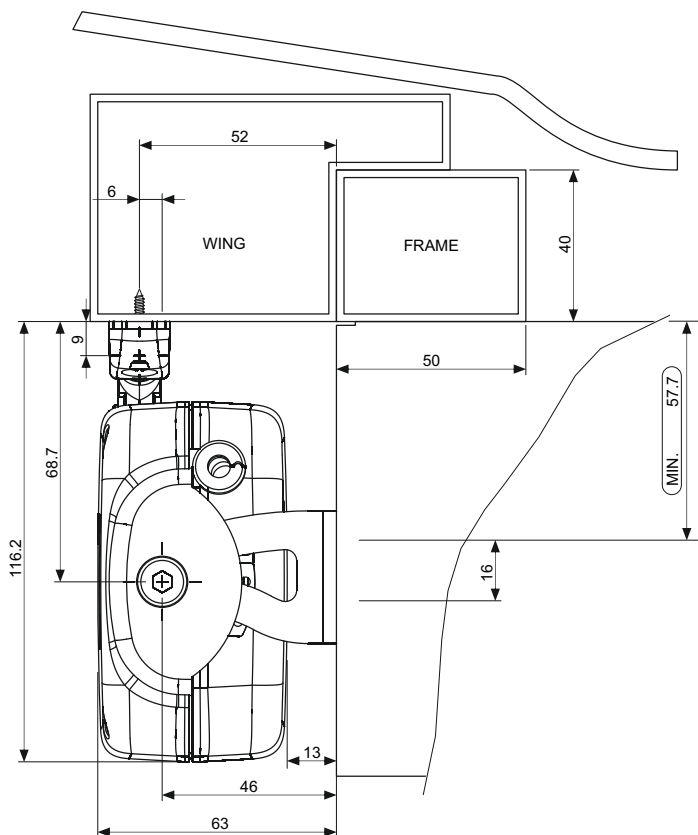

Fig. 14
5.2- TOP HUNG WINDOWS (Fig. 8 and Fig. 14 ÷ 25)
- 2) **Fig. 14-** With a pencil draw the centre line "X" of the window frame;